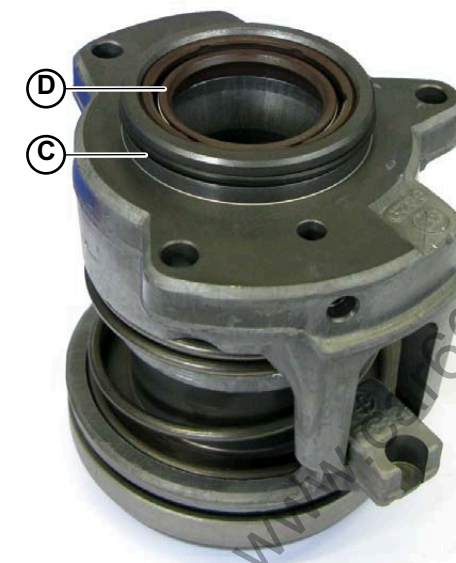

Fig.8
4. Assemble the O-ring (**C-Fig.8**) on the clutch sleeve with **Kuril K2** and lightly grease the internal edge of the seal (**D-Fig.8**).